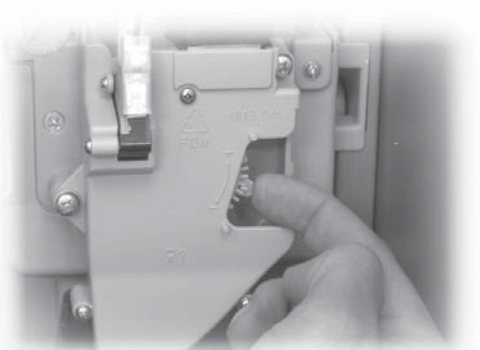

Fig. 35
- move the adjusting lever into the rack and select the slot corresponding to the dose required (Fig. 35).